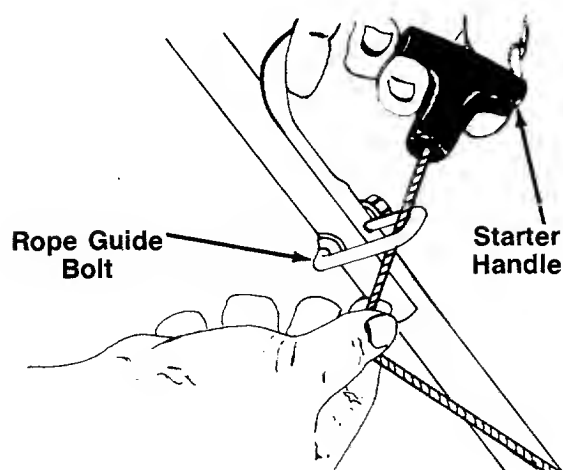

FIGURE 9.
3. Slip the starter rope into the rope guide bolt as shown in figure 9.